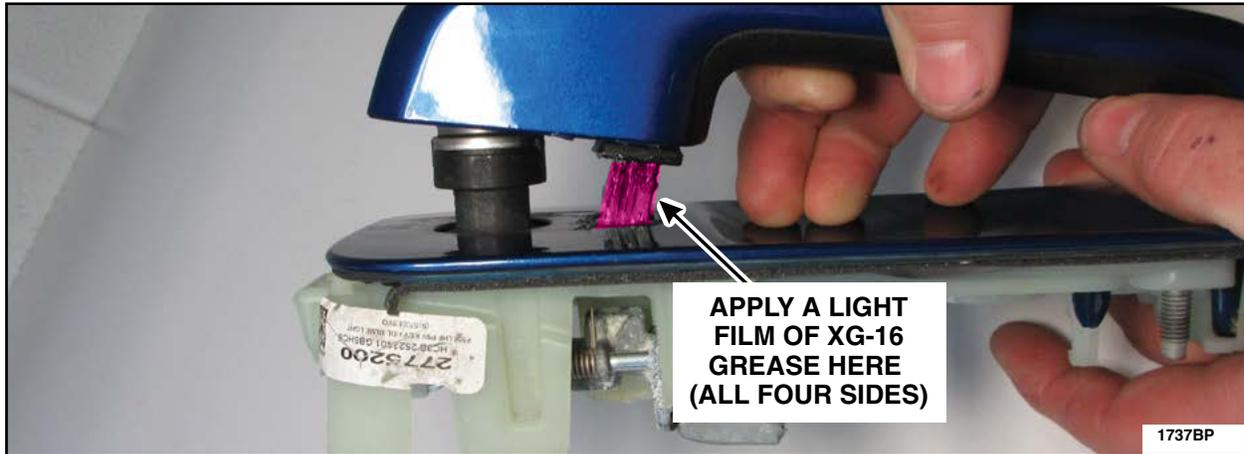

FIGURE 97
21. Using a clean shop towel and isopropyl alcohol, clean the handle plunger then, using a brush, apply a light film of Motorcraft® XG-16 low temperature grease to all four sides of the exterior door handle plunger and to the mechanisms in the areas shown in Figures 97 and 98.